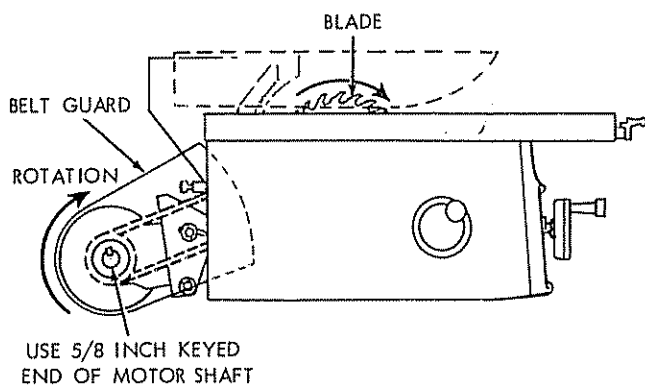

Figure 38
3. The Craftsman motors recommended in the preceding table may be connected for either right- or left-hand rotation. Make sure that wiring connections are made so the motor shaft will rotate in a clockwise direction (when facing the drive end). (See figure 38.)